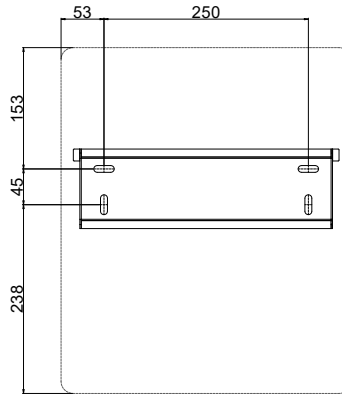

FIG.6-6 Drilling Positions
1) Use the wall-mounting bracket as a template and mark the positions of the drill holes, then drill the 4 holes accordingly, as per FIG. 6-6. (Diameter = 11mm, Depth ≥ 55mm).
Note: The external dimensions (W × H) of inverters are shown as a dashed line in FIG. 6-6.